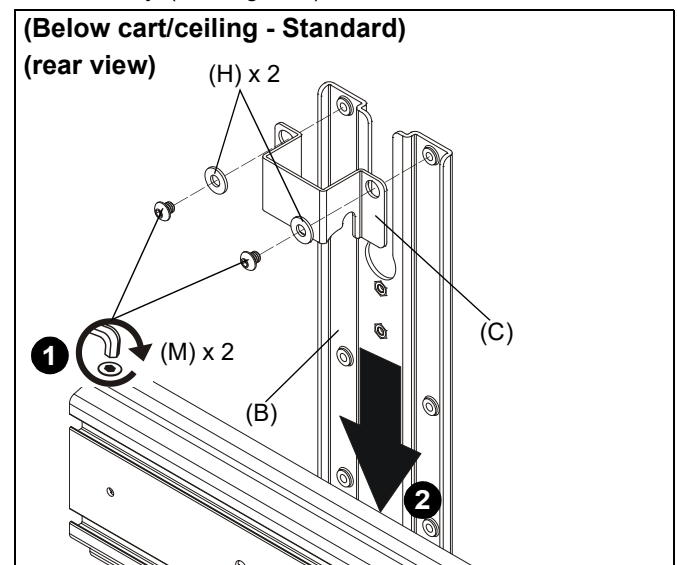

Figure 7
- Use two 1/4-20 x 1/4" button head cap screws (M) and two large washers (H) to secure shelf bracket (C) to main bracket (B). (See Figure 7)
- Slide main bracket (B) onto front of cart/ceiling mount head assembly until shelf bracket (C) rests on top of head assembly. (See Figure 7)